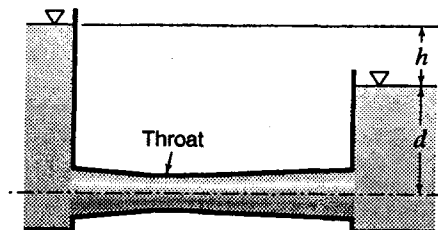

Figure P5.26
5.26 In Fig. P5.26, assume water is flowing and neglect all head losses except at discharge. Find the flow rate if $h = 8$ ft. Assuming that $d = 10$ ft, the throat diameter is two-thirds the pipe diameter where it joins the downstream tank, and the atmospheric pressure is equal to the standard atmospheric pressure at 10,000 ft elevation, calculate the gage pressure and the absolute pressure in the constriction. The throat diameter is 14 in.